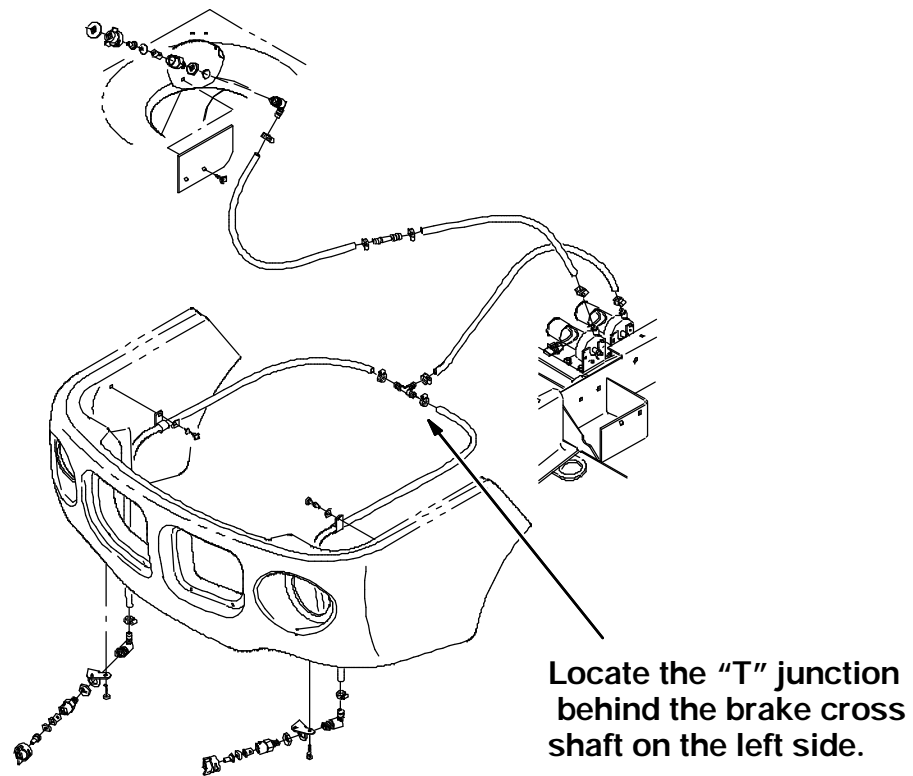

FIG. 1 - WATER LINE BREAKDOWN
(Refer to FIG. 1, 2 and 3)
3. Locate the vinyl hose "T" junction behind the brake cross shaft on the left side, next to the U bolt. (Refer to FIG. 1)